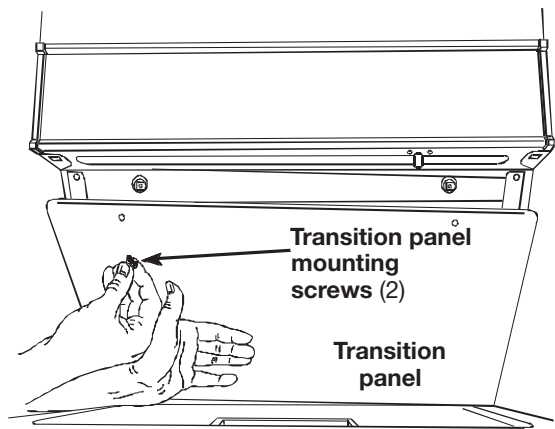

Figure 2
3. Remove front transition panel by removing two (2) screws. See Figure 2. This will allow access to the exhaust outlet elbow.